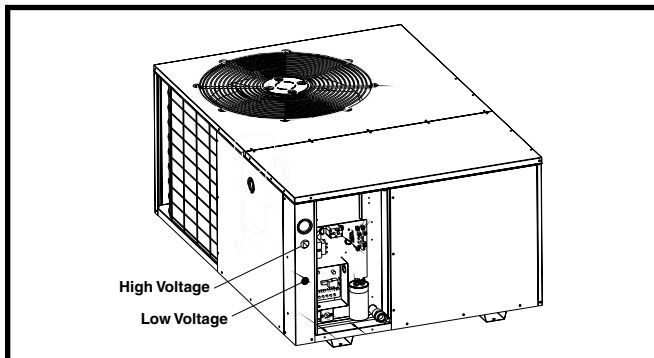

Figure 7. Power Entry
- Connect the line-voltage leads to the terminals on the contactor inside the control compartment. Extend leads through power wiring hole. See Figure 7. Connect **L1** & **L2** directly to the contactor.